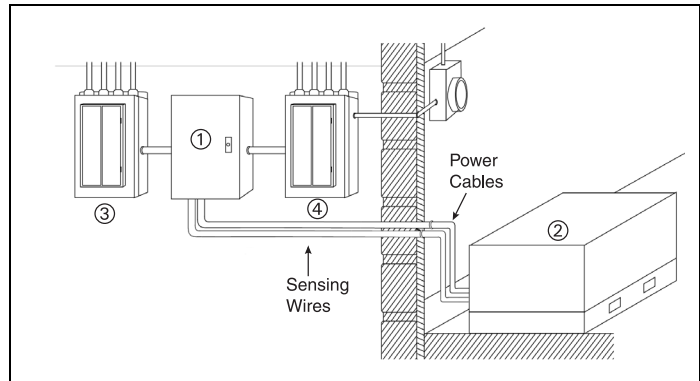

Figure 16. Typical Installation of a Light Commercial ATS.
In a typical installation for critical loads (see Figure 16), the ATS (1) and the generator (2) are connected to the power supply. The ATS (1) and emergency distribution panel (3) receive utility (Source 1) power from a dedicated breaker in the utility service panel (4). The ATS and emergency panel receive generator (Source 2) power from the generator (2). Power from the utility panel feeds the utility panel.